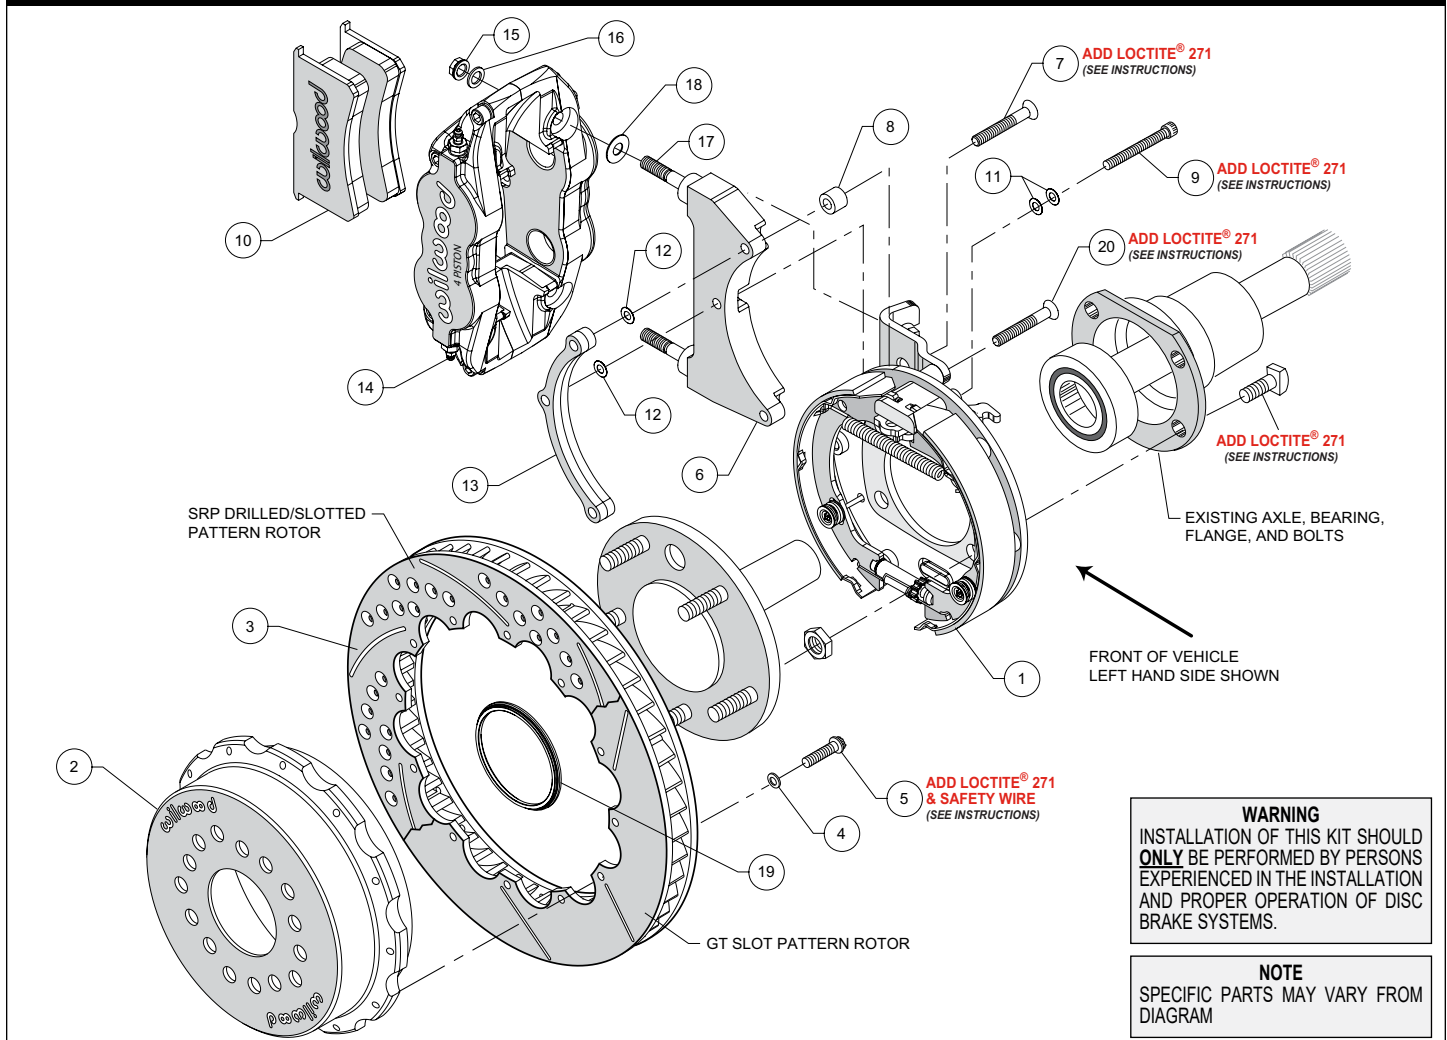
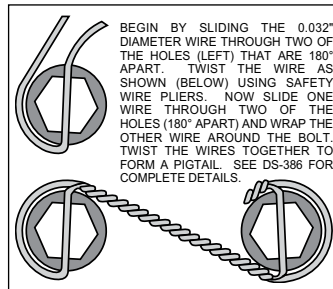

Figure 1. Typical Installation Configuration
Figure 4. Safety Wire Diagram
Assembly Instructions (numbers in parenthesis refer to the parts list and Figure 1 on the preceding pages): **CAUTION: All mounting bolts must fully engage threaded holes.**
- Orient the bracket assembly (1), as shown in Figure 1, and mount to the axle housing flange using the Original Equipment Manufacturer (OEM) bolts and nuts, Figure 1. Ensure that the bracket assembly backing plate fits flush against the axle housing flange. Apply red *Loctite*® 271 to the OEM bolt threads and torque to OEM specifications.
- **NOTE: Please reference the caution statement at the beginning of the assembly instructions.** The caliper mounting bracket assembly (6) should initially be installed with clean, dry threads on the mounting bolts. **NOTE: The caliper bracket must tighten squarely against the back side of the bracket kit assembly (1).** The ends of the bolts should not exceed inside face of insert. Later, after the caliper alignment has been checked, the mount bolts will be secured using red *Loctite*® 271.
- Remove and discard temporary rubber spacer from bolt (7). Orient bracket (6) and 3-hole spacer (13) as shown in Figure 1 and Photo 1, and install using bolts (9) and washers (11) in the middle and lower hole locations, Figure 1. Use bolt (7) in the upper hole with spacer (8) placed between the bracket (6) and the cable stop bracket, Photo 1. Initially place one .015" shim washer (12) on each of the three bolts between the bracket and 3-hole spacer, Figure 1. Temporarily tighten the mounting bolts.
- Orient the rotor (3) and the hat (2) as shown in Figure 1 and Photo 2. Attach rotor to hat using bolts (5) and washers (4). Apply red *Loctite*® 271 to the bolt threads and torque to 155 in-lb using a criss-cross pattern. For an added measure of security, the bolts may be safety wired using standard 0.032 inch diameter stainless steel safety wire as shown in Figure 4. Please refer to Wilwood's data sheet DS-386 (available at www.wilwood.com/Pdf/DataSheets/ds386.pdf) for complete safety wire installation instructions.
- Slide the rotor registration adapter (19) onto the axle register on the axle flange with the smaller O.D. facing toward the rotor/hat (3 and 2), Photo 3. Align the correct hole pattern in the hat with the stud pattern on the axle flange and slide into place, Figure 1 and Photo 4. **NOTE:** The rotor/hat must fit flush against the axle flange or excessive rotor run out may result. Install three lug nuts (finger tight) to keep the rotor/hat assembly in place while continuing with the installation. **NOTE:** Some OEM and after market axles come with stud sizes larger than 0.50" diameter. Verify stud size and have a qualified machine shop drill the bolt circle of the hat/rotor to the correct stud size, if necessary.
- Initially place one .035" thick shim (18) on each stud as shown in Figure 1 and Photo 5. Mount the caliper (14) onto the bracket (6) using lock nuts (15) and washers (16), Figure 1. Temporarily tighten the lock nuts and view the rotor through the top opening of the caliper. The rotor should be centered in the caliper, Photo 6. If not, adjust by adding or subtracting shims (12) between the bracket (6) and the 3-hole spacer (13). Always use the same amount of shims on each of the three mounting bolts. Once the caliper alignment is correct, remove the bracket mounting bolts (7 and 9) one at a time, apply red *Loctite*® 271 to the threads, and torque to 180 in-lb. Also, remove cable stop bracket bolts (20), apply red *Loctite*® 271 to threads and torque to 180 in-lb.